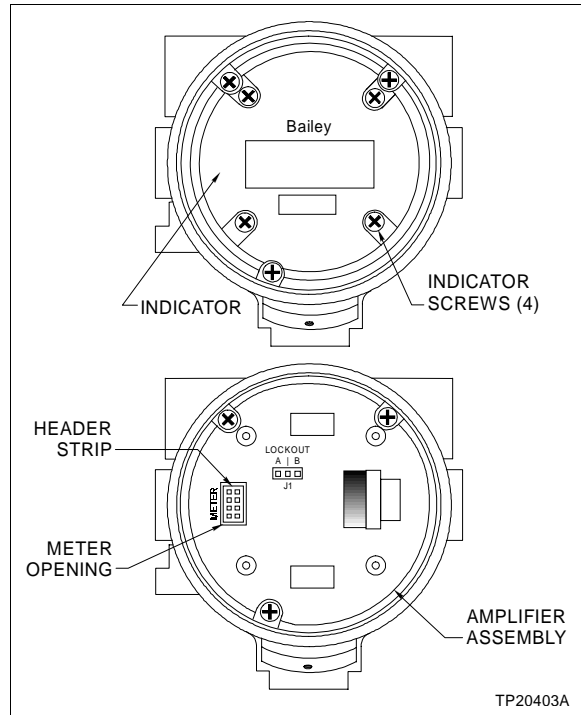

Figure 5-1. Lockout Jumper Access
4. Remove the four indicator screws (Fig. 5-1) and unplug the optional indicator from the amplifier assembly. Go to Step 5.
NOTE: The main board connector in the amplifier assembly, which is accessible through the meter opening (Fig. 5-1), is female, as are the four connectors on the back of the LCD. Therefore, there is a male-to-male header strip between the two female connectors. Be sure the header strip stays in the main board connector in the amplifier assembly when the LCD is unplugged. If it comes out with the LCD, remove it from the LCD and replace it in the main board connector in the amplifier assembly before continuing with this procedure.